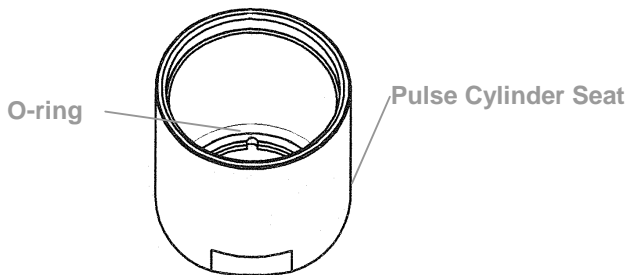
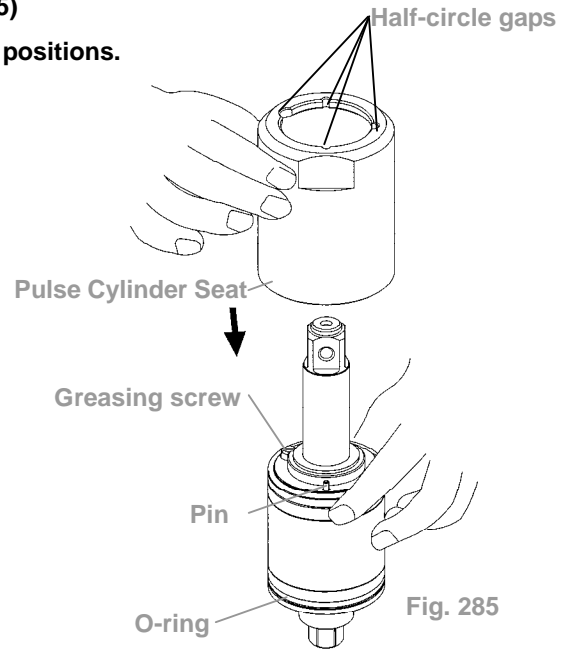

Fig. 284
Fig. 285
4.1 Place the O-ring inside the bottom of the pulse cylinder seat, then combine the pulse cylinder seat with the assembled pulse cylinder unit. (Fig. 284, Fig. 285)